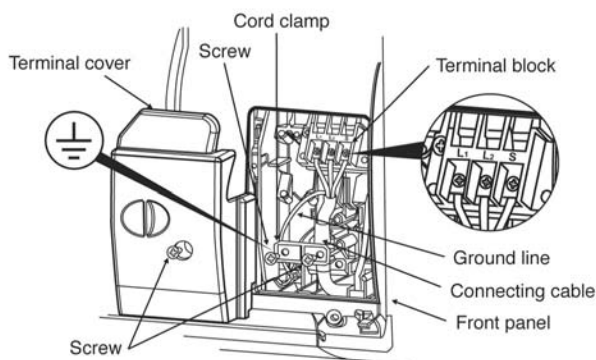

Fig. 10-3-8
7. Pull out the connecting wire through the conduit pipe and process the wire. (Fig. 10-3-8)